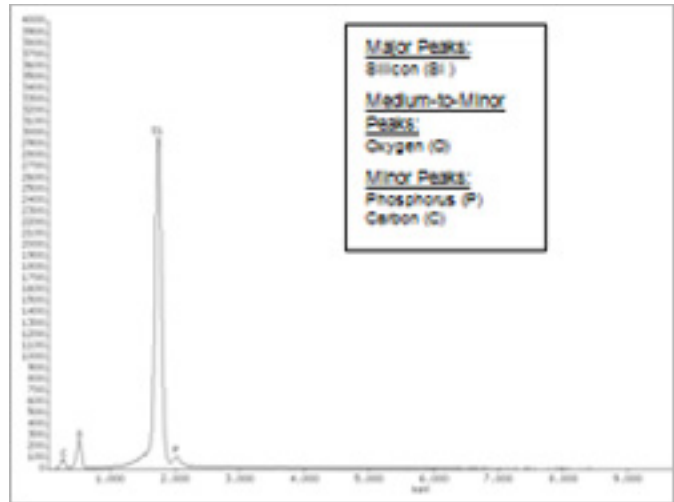

Figure 1: EDS spectrum of Area 1 (clean).
2. EDS spectra generated by the areas of interest are shown in Figures 1 – 4 below and on the following page.